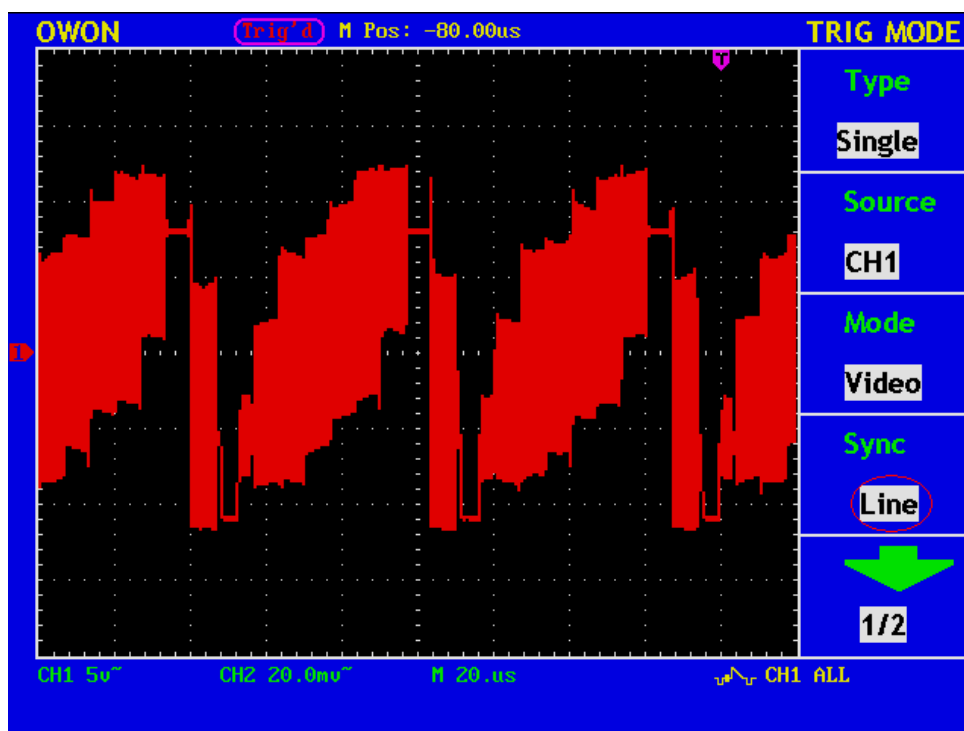

Fig. 37 Video field trigger Oscillogram(the first menu)
- 5、 Press F4 to choose synchronization as“Line” (refer to Fig.37)